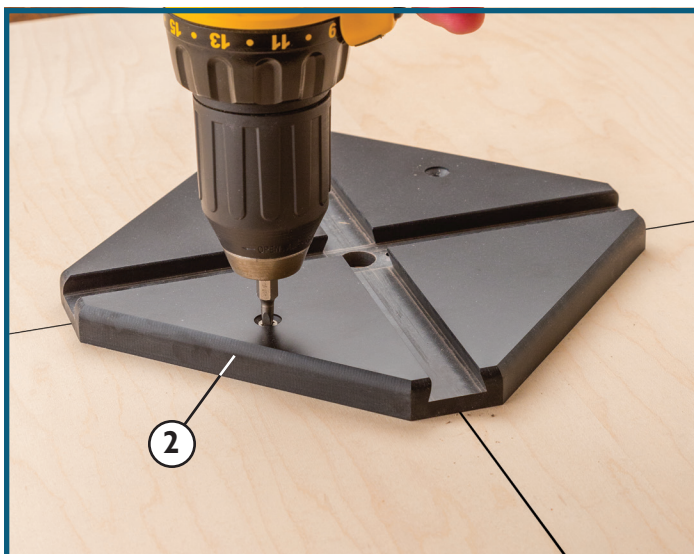

Fig. 2
2. Center the Jig Base on the intersection of the major and minor axes. Secure the Jig Base (2) to the workpiece with screws of a length appropriate for your workpiece. **Fig. 2.**